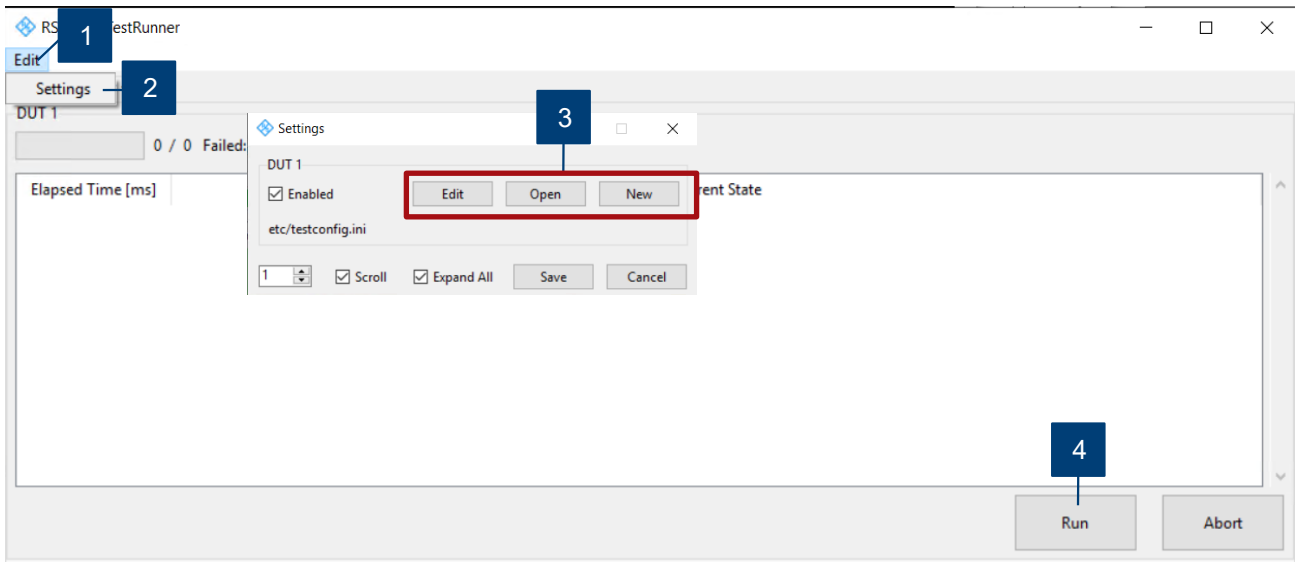

Figure 2-23 Run test plan in WMT TestRunner
4. Launch WMT Test Runner GUI and follow the steps shown in Figure 2-23 to run the test plan.
The Step 3 shown in Figure 2-23 contains following options: